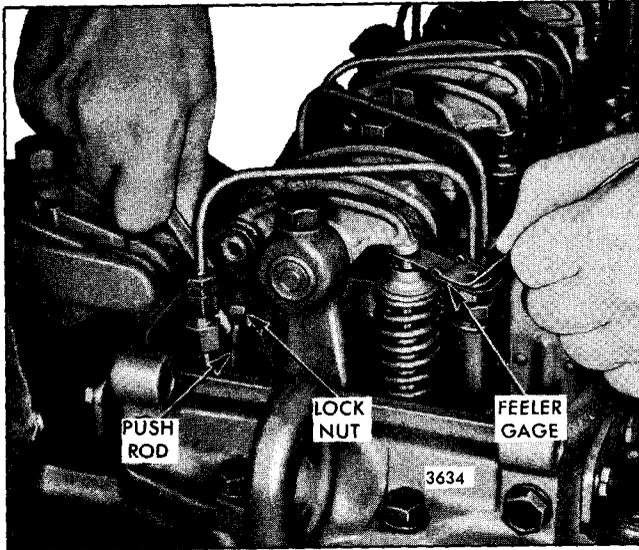

Fig. 1 - Adjusting Valve Clearance
5. Place a .012"  $\pm$ .004" feeler gage (J 9708-01) between the valve stem and the rocker arm (Fig. 1). Adjust the push rod to obtain a smooth "pull" on the feeler gage.